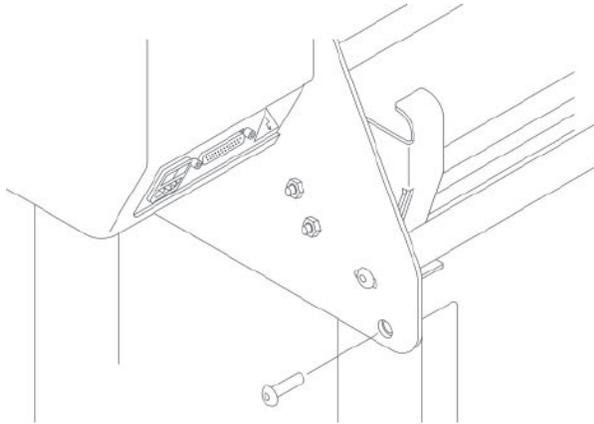

Fig. 3
1. Remove the two allen or Phillips head screws (5/32" allen wrench) holding the rear of the plotter on the stand. See Fig. 3